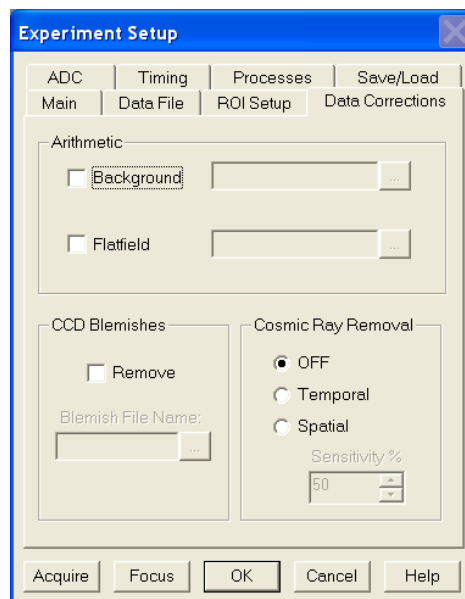

Figure 41. Data Corrections tab
4. On the **Data Corrections** tab (Figure 41) all of the correction functions should be OFF.